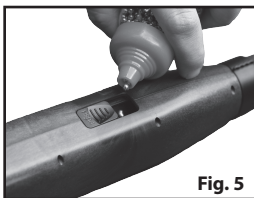

Fig. 5
3. Fill the reservoir with up to 300 BBs (Fig.5) and close the reservoir door.